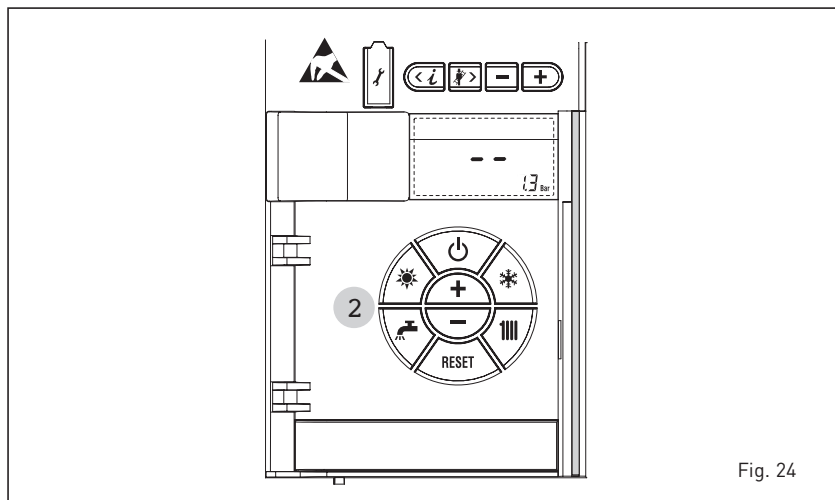

Fig. 24
BOILER IGNITION (fig. 24)
TO SWITCH OFF THE BOILER (fig. 24)
In the case of a short absence, press the key [] of the controls (pos. 2). The display will be as shown in the fig. 24. In this way, leaving the electricity and the fuel supply connected, the boiler is protected from frost and from the pump becoming blocked. If the boiler is not used for a prolonged period, it is advisable to disconnect the electricity supply, by switching off the main switch of the system, and to close the gas tap and, if low temperatures are expected, to completely empty the hydraulic circuits to avoid pipes being broken by the formation of ice in the pipes.